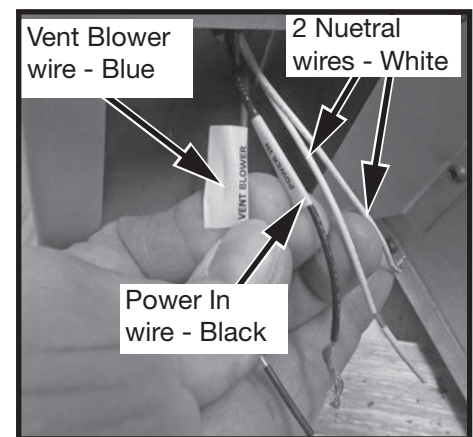
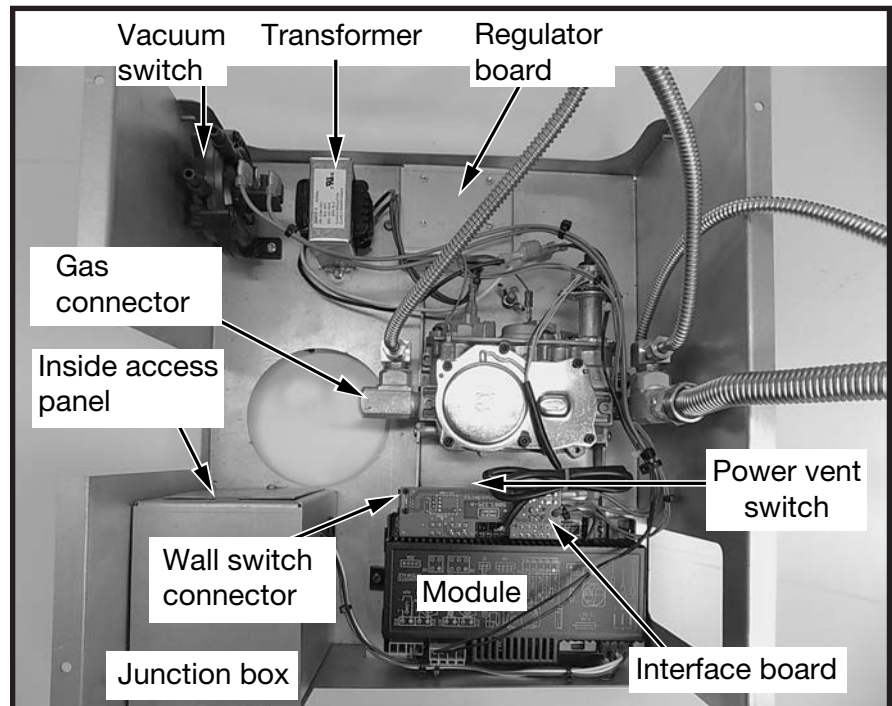
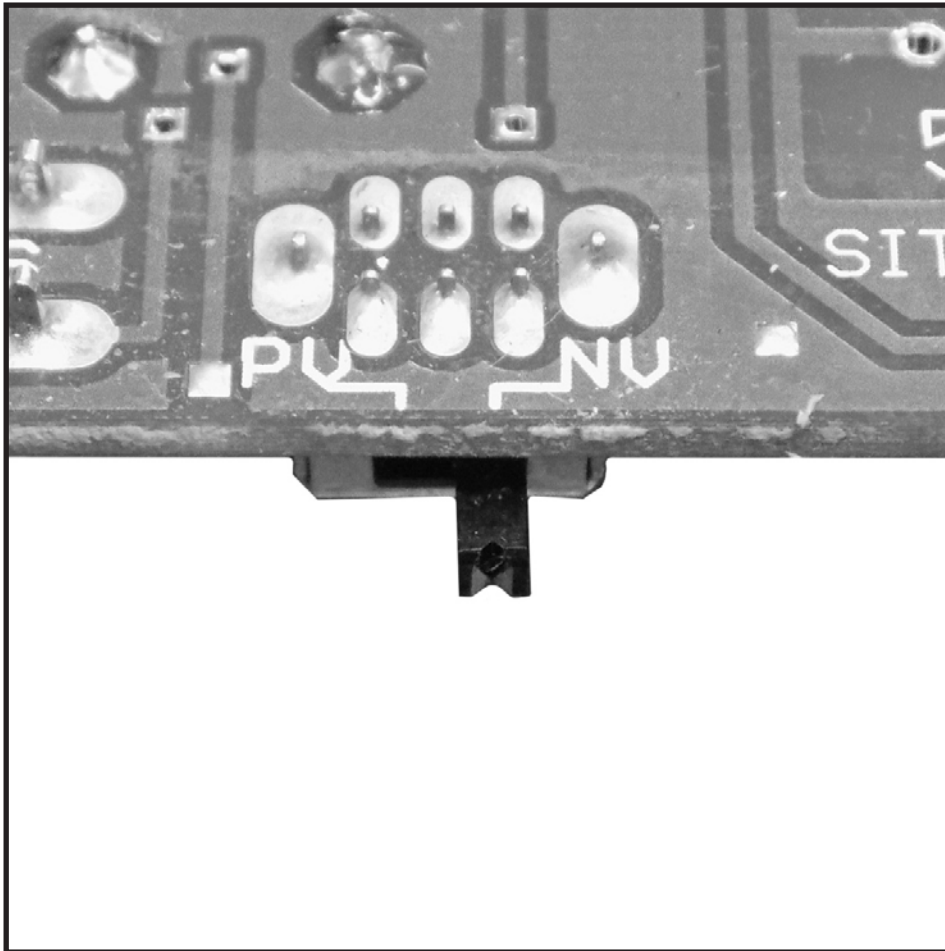

Figure 24: Junction box wiring.
Figure 25: Valve assembly components.
Figure 29: Natural vent - Power vent switch.
4. Connect 110 V. AC electrical supply to the wires installed inside the junction box - (Figure 24). The fireplace is rated at 110 volts, 60Hz, 0.25A. The optional power vent kit is rated at 115 volts, 60Hz, 1.8A.
The electrical wires can be accessed from both inside and outside the junction box by removing one of the two small access panels (Figure 24) & (Figure 25).
7. Attach one end of the wall switch control cable to the wall control. (Figure 28) , and the other end to the interface board (Figure 25).
The NV / PV (Natural Vent / Power Vent) switch (Figure 29) on the interface board (Figure 25) is set according to which type of evacuating vent system is present. If the fireplace is vented without the assistance of a power vent, the switch should be set to “NV”. If using a power vent, “PV” should be selected. Follow the instructions provided with the power vent kit for proper installation.
1. Connect the gas supply to the gas connector (Figure 25).